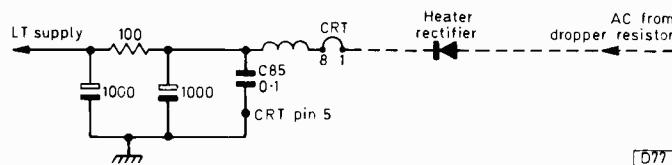

Fig. 1: Pye 169 chassis: a short-circuit in C85 removed the signals and the raster.
We were recently called to look at a set fitted with the Pye 169 monochrome chassis. For about ten minutes after switching on all the verticals quivered. Thereafter the set worked perfectly. A new PCF802 line oscillator valve completely cured the trouble, but just before we replaced the back we noticed a spark on the c.r.t. base connector where C85, which decouples the c.r.t. heater (see Fig. 1), is connected to pin 5. Inspection showed that its leadout wire
The original mast we used took the form shown in Fig. 1. The two wooden posts act in a similar manner to flag pole supports and consist of a pair of ten foot beams with holes drilled at the top and bottom. These take 1½in. aluminium poles which are ultimately clamped to the mast. The supports must be thoroughly treated with wood preservative in order to minimise the possibility of decay.
*Fig. 1: Basic form of the original mast, showing the two wooden supports which are spaced about a foot apart. By using the heavy duty clamps, the 2in. scaffold pole can always be removed at a later date and replaced with a more substantial lattice mast, the wooden supports being retained for this purpose.*